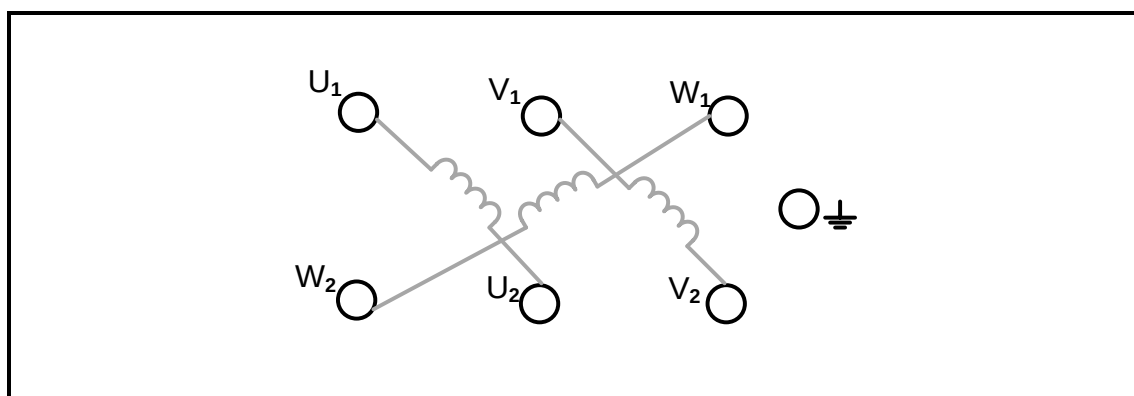

FIGURE 6.5: TERMINAL BOX
6.5 FIGURE 6.5 shows the terminal box of a three-phase motor. Redraw the terminal box in the ANSWER BOOK and indicate how the motor can be connected in delta.